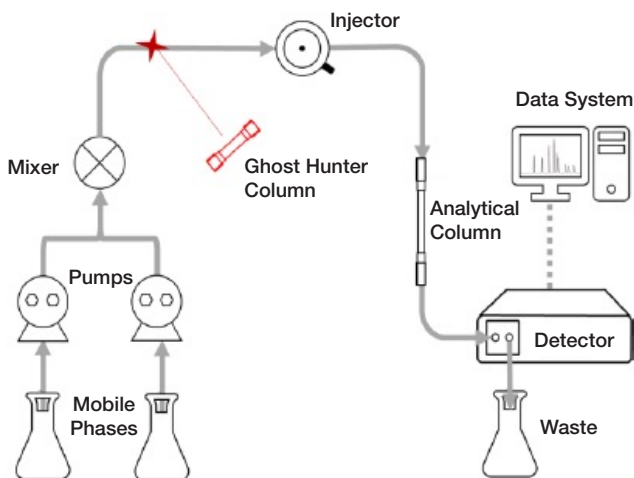

Figure 1. Ghost Hunter Column Connections Diagram
3. Make sure the arrow is in the direction of flow. Use PEEK tubing with PEEK fitting or stainless-steel fitting and tubing to connect the column in between the gradient mobile phase mixer and the injector (See Figure 1).